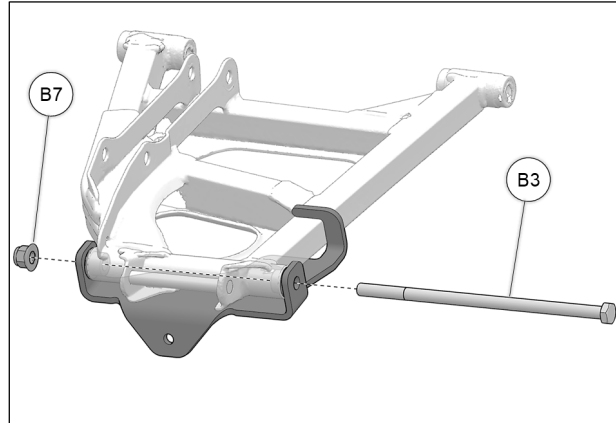

Fig. 7
7. Insert M12x260mm bolt (**B4**) through anchor bracket, step bushings and suspension arm. Secure with supplied M12 nut (**B7**). Tighten to 90 Nm [66 lb•ft]. See Fig. 7